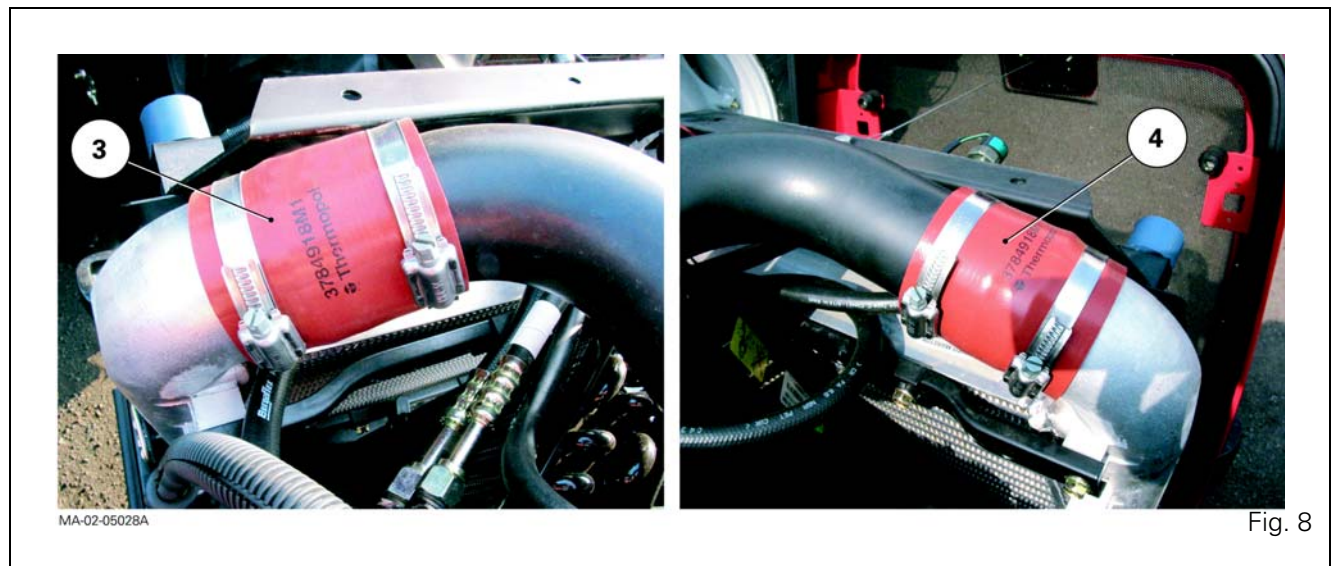

Fig. 8
19. Disconnect the air sleeves (3) (4) on the air cooler located inside the grille (Fig. 8).